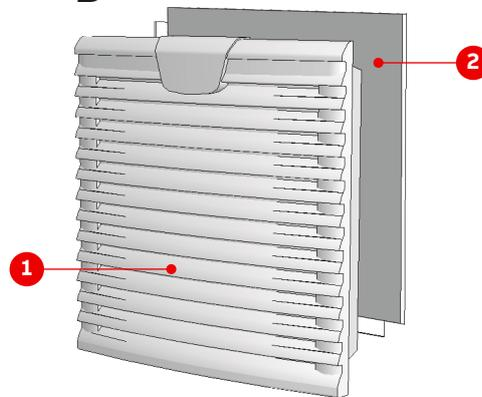

Figure 10-8 Filter mat replacement for PCU (A) and WCU (B)
2. Remove the air outlet panel (Fig. 10-8:1).